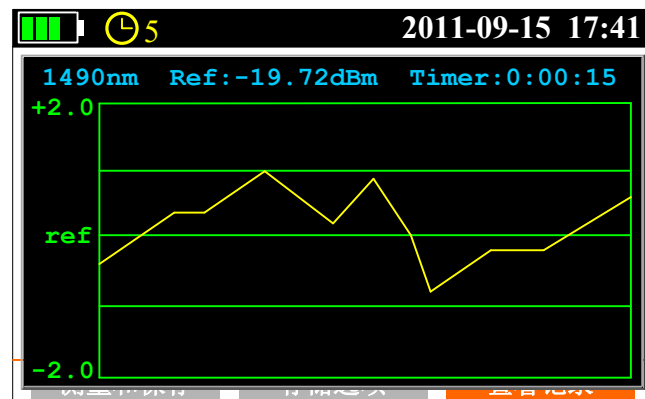

Figure 3.12
**Draw Trace:** press , it will display the trace as Figure 3.12;